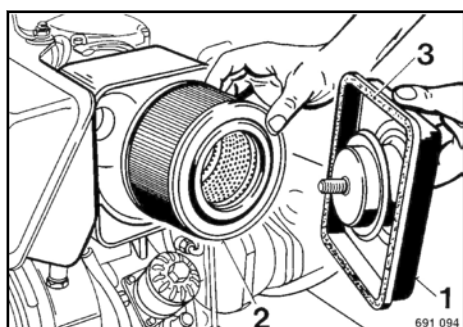

Fig. 78
Insert the air filter (2) ↪ Fig. 78.
Attach the cover (1) ↪ Fig. 78 and tighten it with the wing screws.